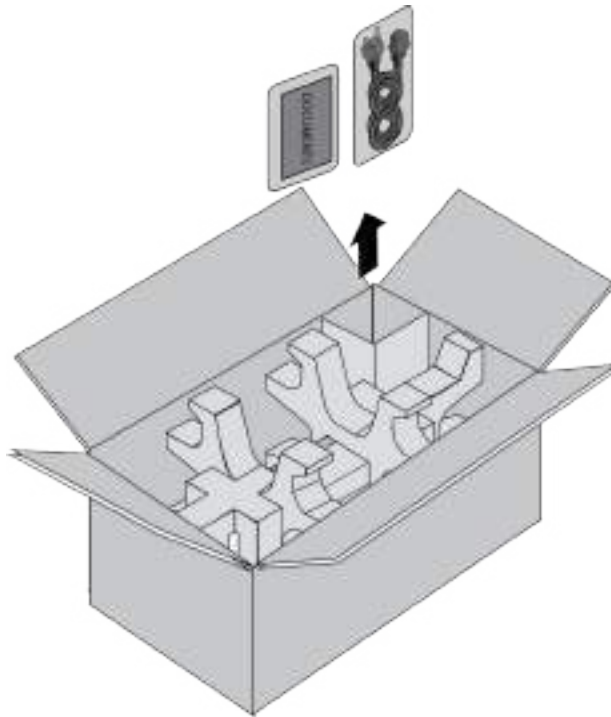

Figure 33. Removing the Power Cord and Documents from the PWR600 AC Power Supply
1. Remove the power cord and any documents from the accessory box partition. Refer to Figure 33.